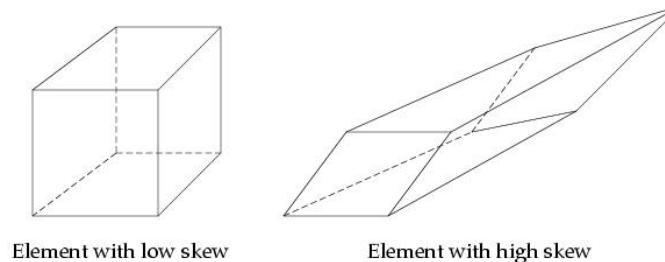

Figure 26.2.1: Elements with Low and High Skew
- An equilateral element (cube or equilateral tetrahedron) is optimal. Since it is generally not possible to have only optimal elements, you should instead focus on maintaining a low aspect ratio and regular (not skewed) shape for each element. This will reduce the number of long, thin elements and the number of distorted elements, both of which can decrease accuracy and destabilize the solution. Figure 26.2.1 shows examples of elements with low and high skew.